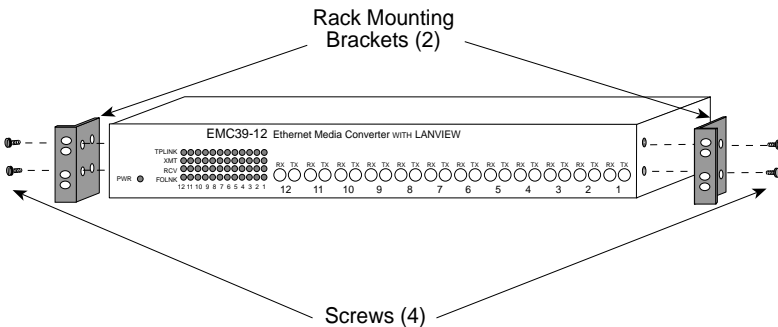

Figure 2-1 Installing the Rackmount Brackets
1. Remove four cover screws (two from each side) located along the front edges of each side of the EMC39-12. Figure 2-1 shows the location of the screws.